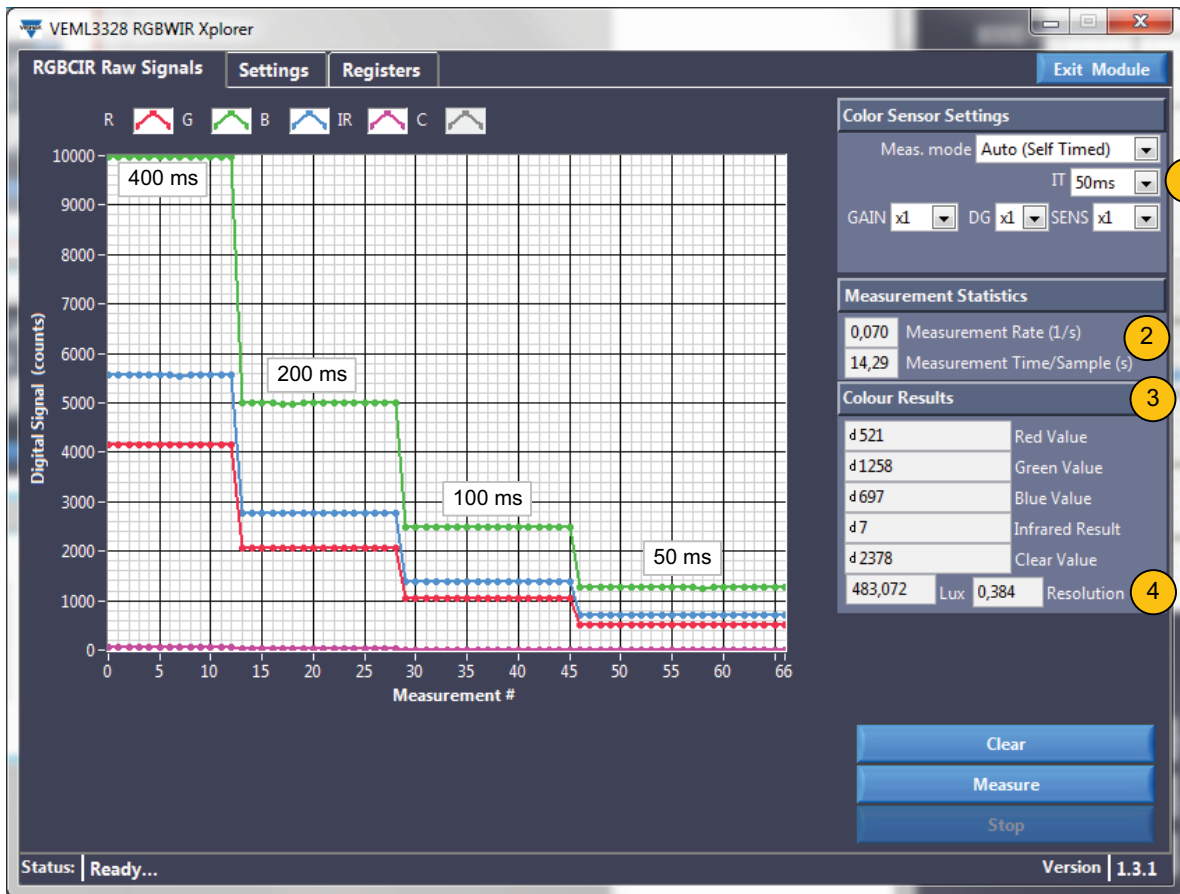
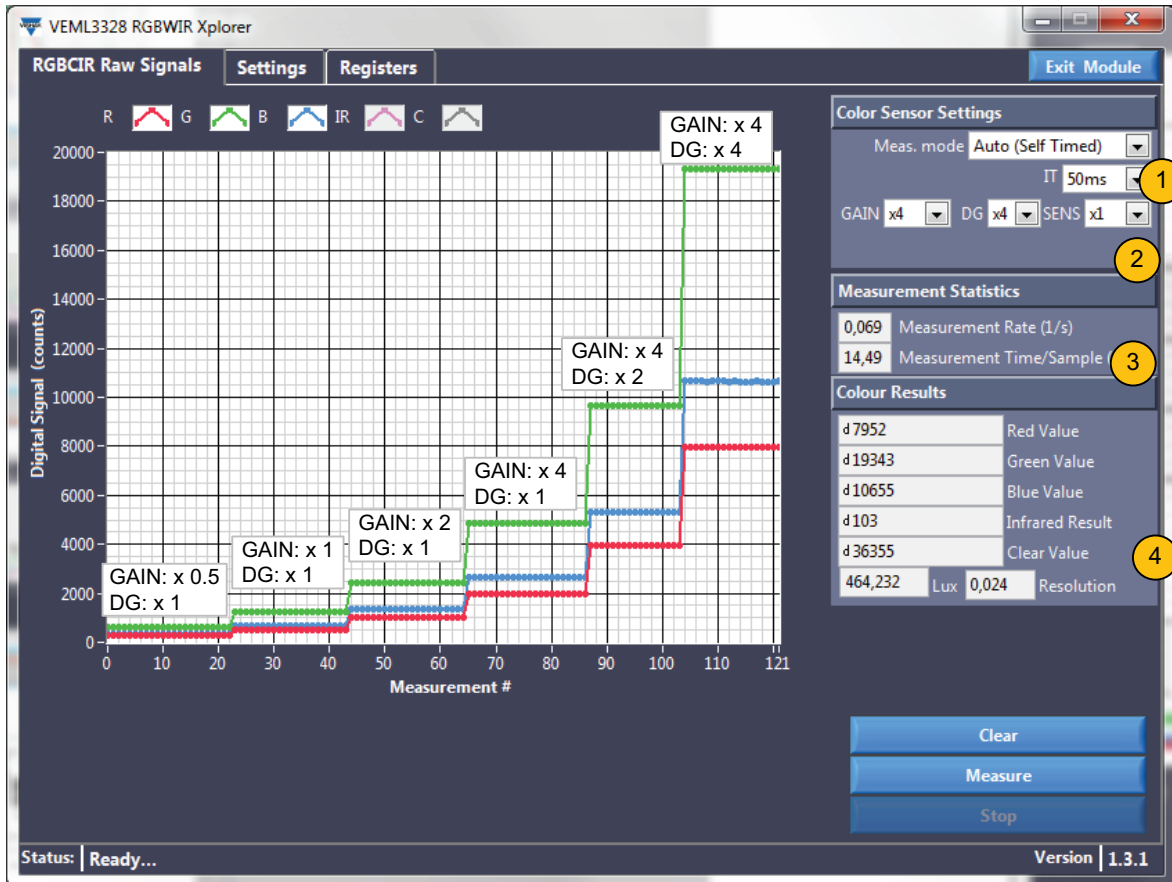

Fig. 7 - Linearity of the Integration Times
Fig. 8 - Linearity of the Gain Steps
For a selected integration time of 50 ms and GAIN = 1 and DG = 1, where sensitivity is 0.384 lux/count multiplied with a 16-bit green data value of 1254 counts (shown in Fig. 7), ALS (lux) = 1254 x 0.384 = 481.536 lux.
With the help of the VEML3328 sensor board and the accompanying demo software, it is easy to test the RGB sensor. The four possible integration times as well as the 2 gain settings are selectable over the GUI (1), as shown in Fig. 7. As shown in this Fig. 7 and in Fig. 8, the output results of the sensor are strictly linear over the integration times and gain steps. A factor of 2 in the integration time and gain steps leads to a factor of 2 in the output data counts, shown on the graph and the color results section (3). Depending on the chosen integration time, the measurement rate will be affected accordingly (2). The resolution according selected integration time and gain settings is also shown (4).